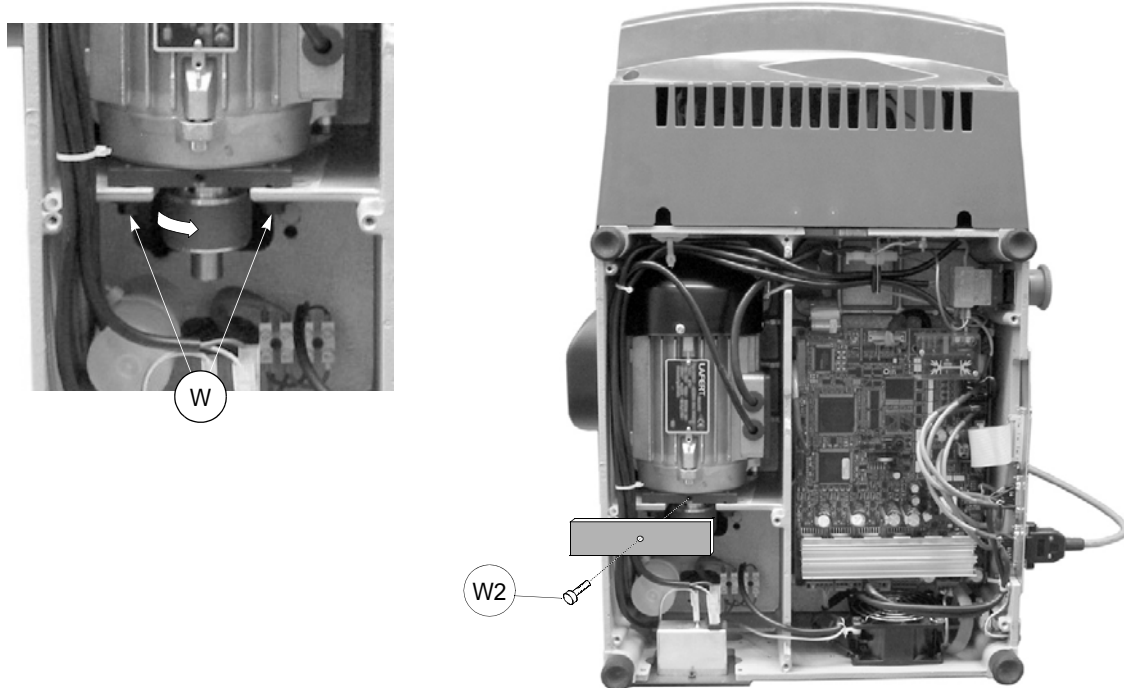

Fig. 43
- 4) loosen the 4 screws (W) securing the motor (fig. 43).
- 8) tighten the 4 (W) screws back into place, securing the motor.
- 3) loosen the 4 screws (W) securing the motor (fig. 43).
- 5) tighten the 4 (W) screws back into place, securing the motor.